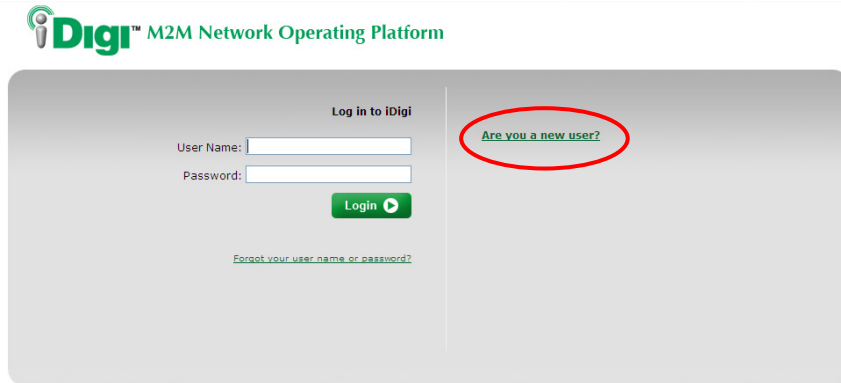

Figure 5: iDigi Login Page
- d. After completing the iDigi Registration process, you will be redirected to the iDigi Login page (refer to Figure 5, above). Enter your iDigi user credentials and then click the **Login** button.